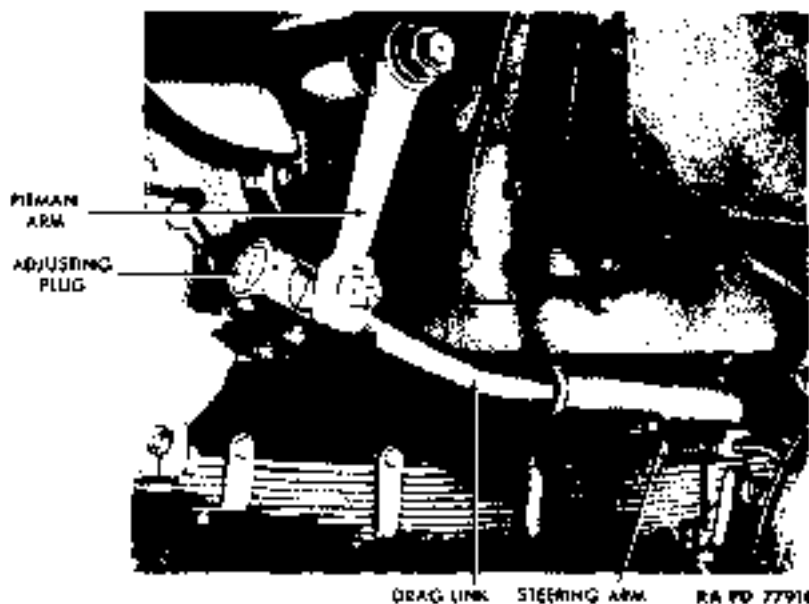

Figure 89 — Drag Link Installed
(3) **ADJUST DRAG LINK END PLAY** (fig. 89). Remove the nut, lock washer, and bolt from adjusting plug at the end of drag link where adjustment is to be made. Screw in adjusting plug until slack is removed. Do not tighten more than necessary. Install bolt, lock washer, and nut which keep adjusting plug from turning.
142. DRAG LINK (fig. 89).
143. PITMAN ARM (fig. 89).